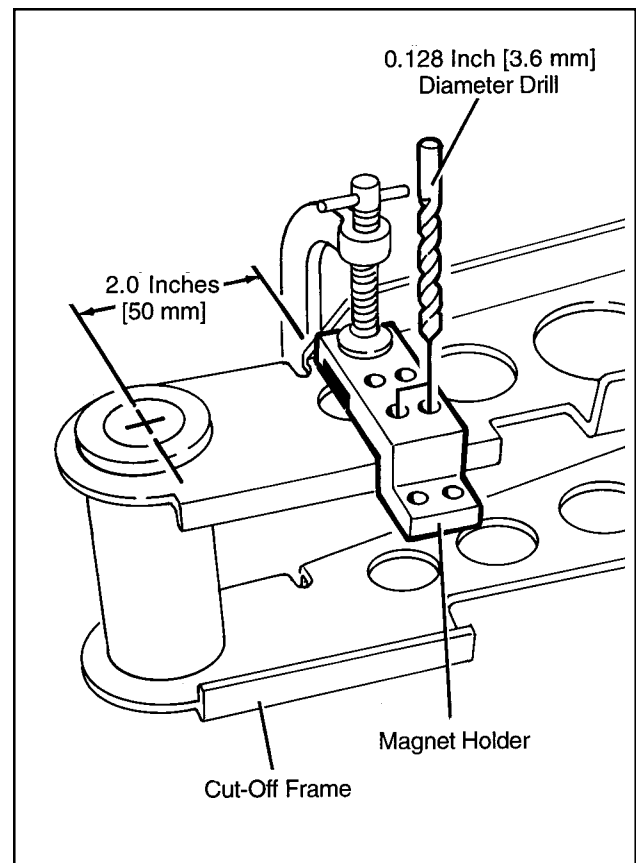

Figure 2-14
5. Locate and drill mounting holes for magnet holder in side of cut-off bracket as follows (refer to Figure 2-14):
- b. Drill two .128 inch [3.6 mm] holes in cut-off frame through the center set of holes in the magnet holder. **Be sure to use the holes closest to the 90° angle in the magnet holder for drilling guide.** See Figure 2-14. Remove clamp holding magnet holder and remove magnet holder. Deburr holes and vacuum or brush metal chips away from taping head.